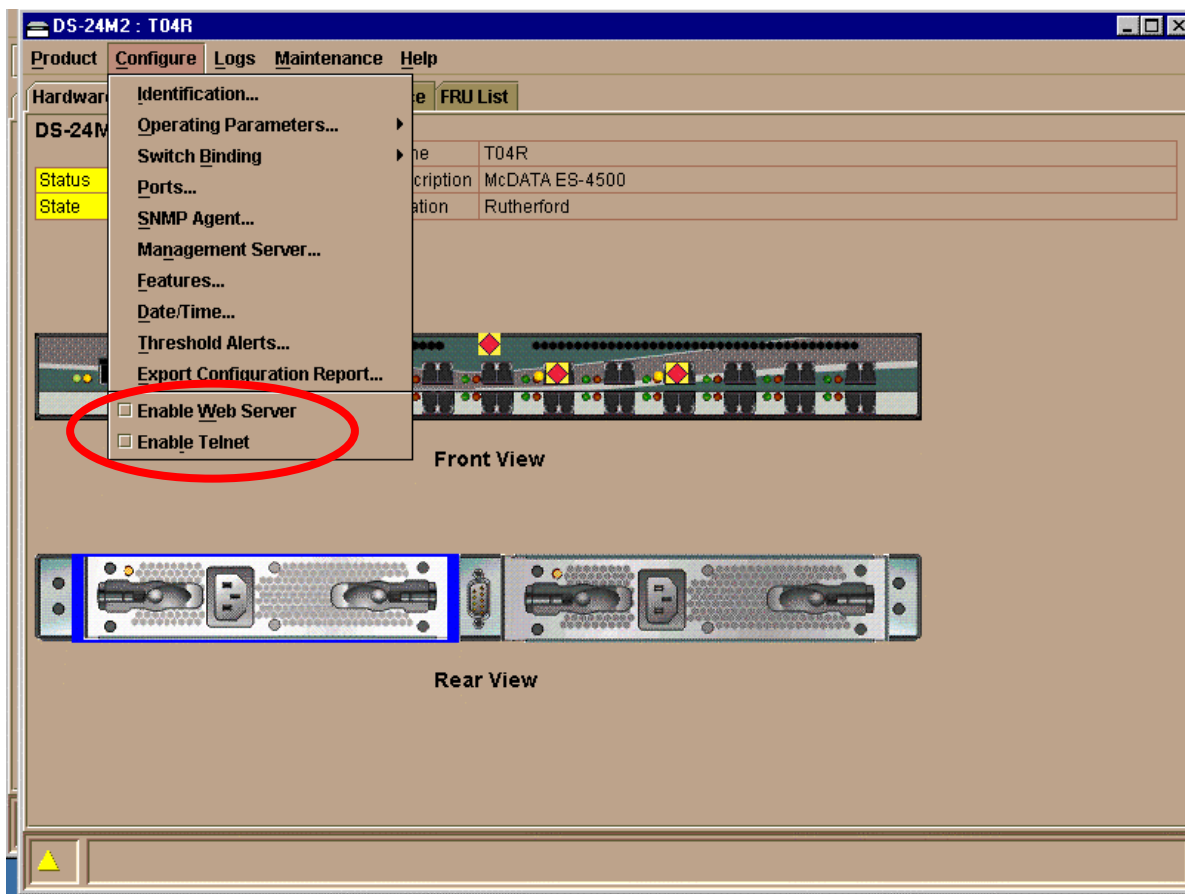

Figure 4 Disabling the Telnet and Web server on the McData switch
- From the product view within Connectrix Manager, disable the web server and telnet as shown in figure 4.